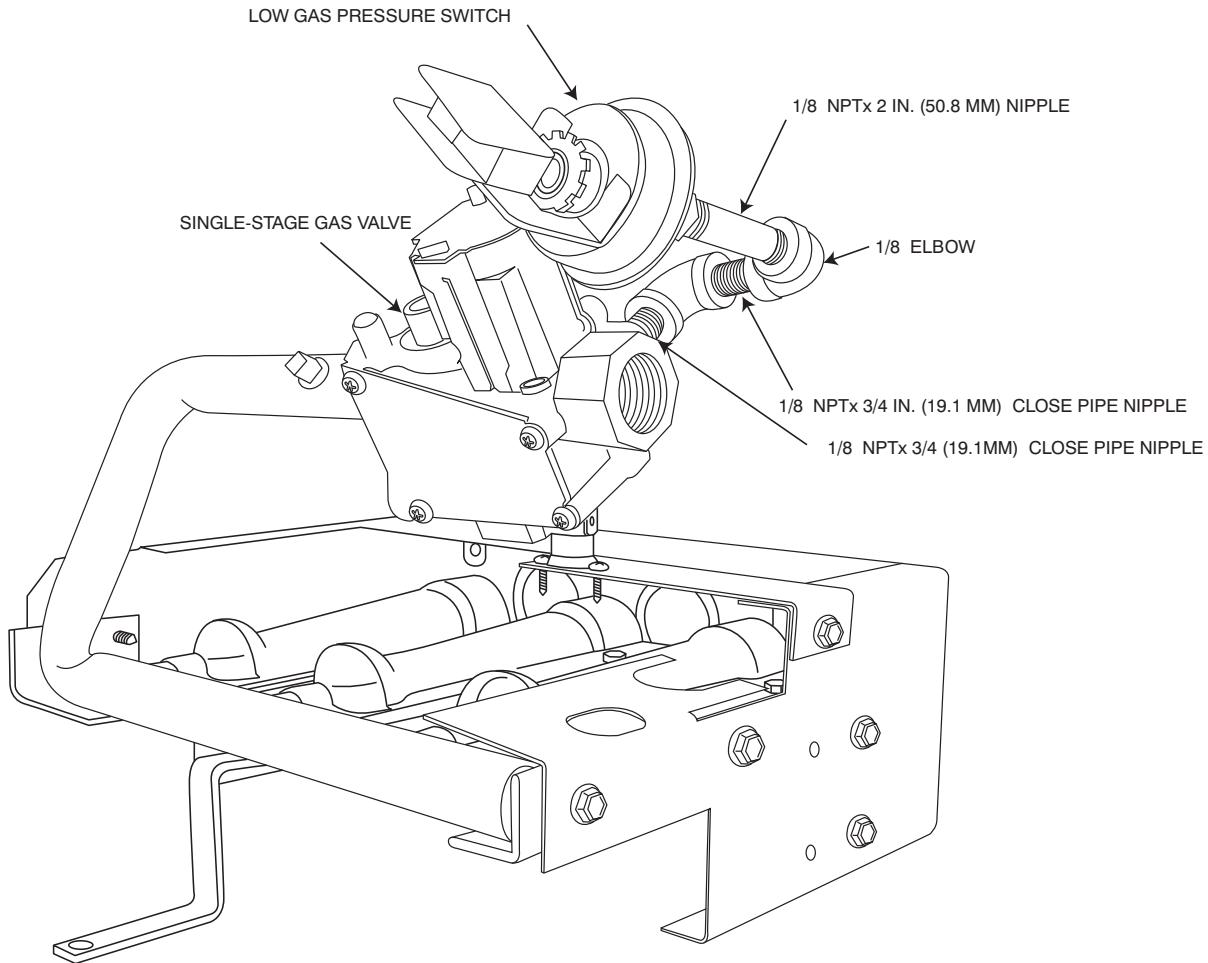

Fig. 6 - Installing Elbows, Nipples, and Pressure Switch on Single-Stage Units
16. Install the 1/8 in. NPT x 3/4 in. (19 mm) close pipe nipple where the plug was removed (see Fig. 6). Use pipe thread
dope (field-supplied, must be certified for use with propane gas) for all joints, making sure not to get any excess in the pipe or valve. Next, install a 1/8 in. elbow, a 1/8 in. NPT x 3/4 in. (19 mm) close pipe nipple, 1/8 in. elbow, 1/8 in. x NPT 2 in. (51 mm) nipple, and a low gas pressure switch as shown in Fig.6.